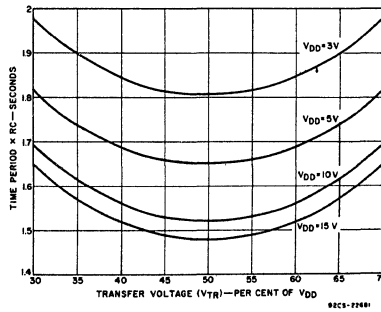

Fig. 3 — Discrete RC-oscillator time period as a function of transfer voltage.
Equation (1) shows that the period of the multivibrator, T, is sensitive to changes in V_{DD} , as illustrated by the graph of time period, T, vs transfer voltage as a function of V_{DD} in Fig. 3. In addition to the strong dependence of actual time period on the V_{DD} chosen, the graph also illustrates that, for a given V_{DD} , a full transfer-voltage spread of 30 to 70 per cent of V_{DD} (unit-to-unit worst-case variations) yields a change in time period of about 10 per cent from the nominal 50-per-cent transfer-voltage percentage values.